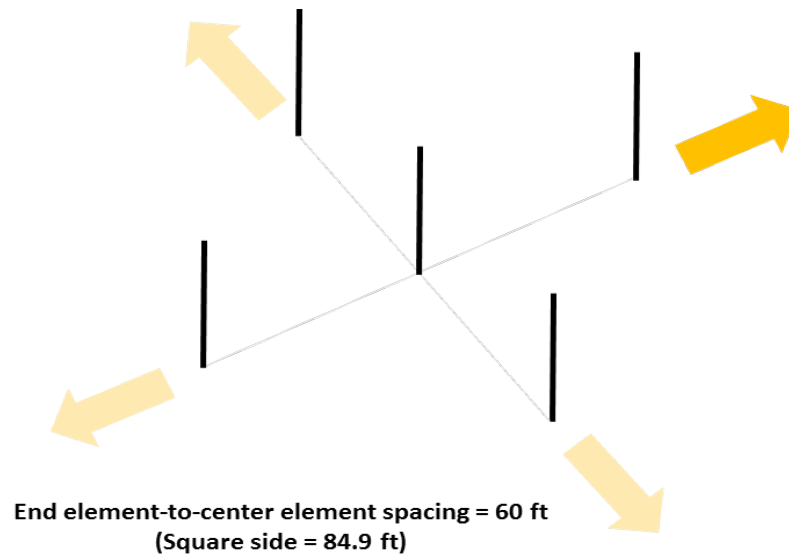

Figure 2. 5-element square configuration
2. 5-element square: Two 3-element inline arrays with a common center element. Switching circuitry selects which of the two inline arrays is activated. The elements are normally arranged to form a square, as shown in Figure 2, so four directions of coverage, every 90 degrees in azimuth, are provided. End-element to center-element spacing is 60 feet, and the sides of the square are 84.9 feet. The inline arrays are independent and, if desired, can also be oriented in a non-square configuration. For example, the arrays can be aimed along the NE-SE axis and the E-W axis, forming a rectangle.